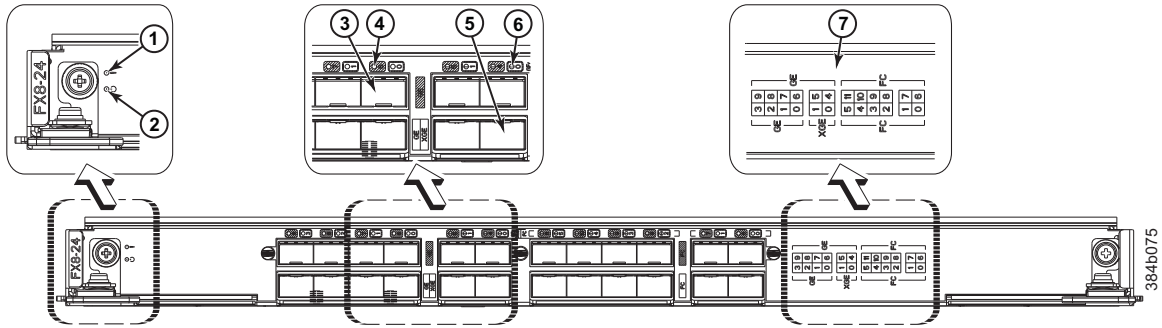

Figure 21. FX8-24 extension blade
- Figure 21 on page 53 illustrates the FX8-24 extension blade